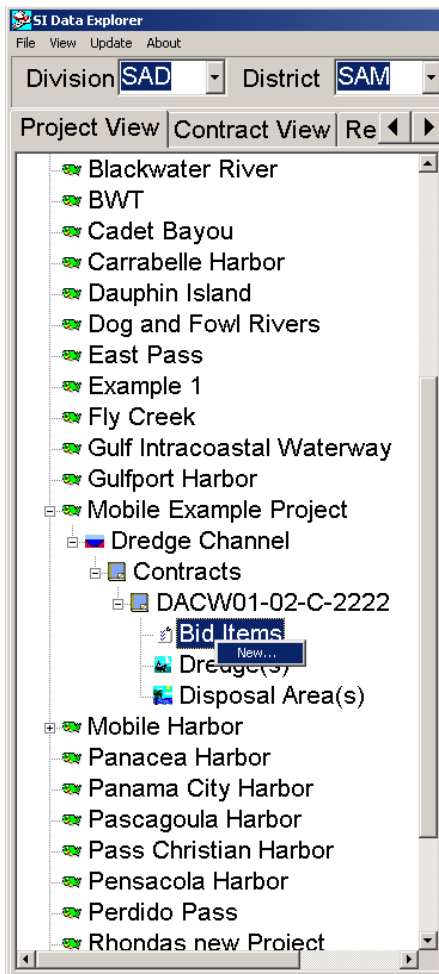

Figure 1.13 New Bid Item
1. Right click on **Bid Items** under the corresponding contract as in Figure 1.13.